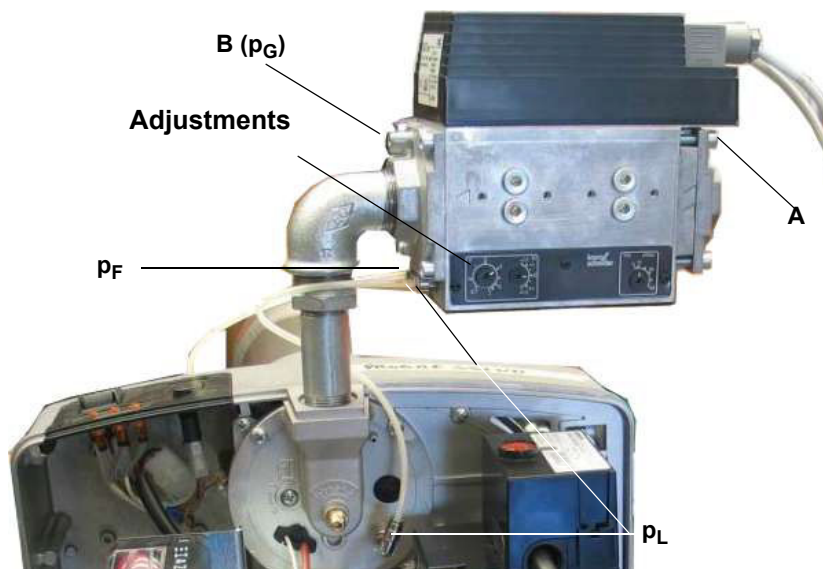
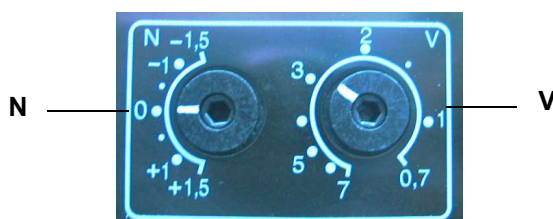

Fig. 22
Fig. 23
Transmission ratio **V** (see pictures Fig. 22 - Fig. 23)
- 1 Start burner with low fire: if the burner does not start, turn **N** (see picture Fig. 23) slightly in the direction + and repeat the start.
- 2 Test gas pressure **p_G** at **B** (see picture Fig. 22).
- 3 Test air pressure **p_L** (see picture Fig. 22) at the burner and adjust the gas pressure at **N** according to the specifications of the burner manufacturer.
- 4 Set the burner gradually to high fire and adjust the gas pressure at **V** (see picture Fig. 23) in accordance with the boiler input.
- 9 Repeat analysis with low and high fire; if necessary, correct **N** and **V** (see picture Fig. 23) .
Do not block connection **p_F** if not used (see picture Fig. 22).
V = Do not set transmission ratio to high! The gas pressure at **B** is smaller than the gas pressure at **A** (see picture Fig. 22) minus the
- 2 Measure the gas pressure at **A** and **B** (see picture Fig. 22).